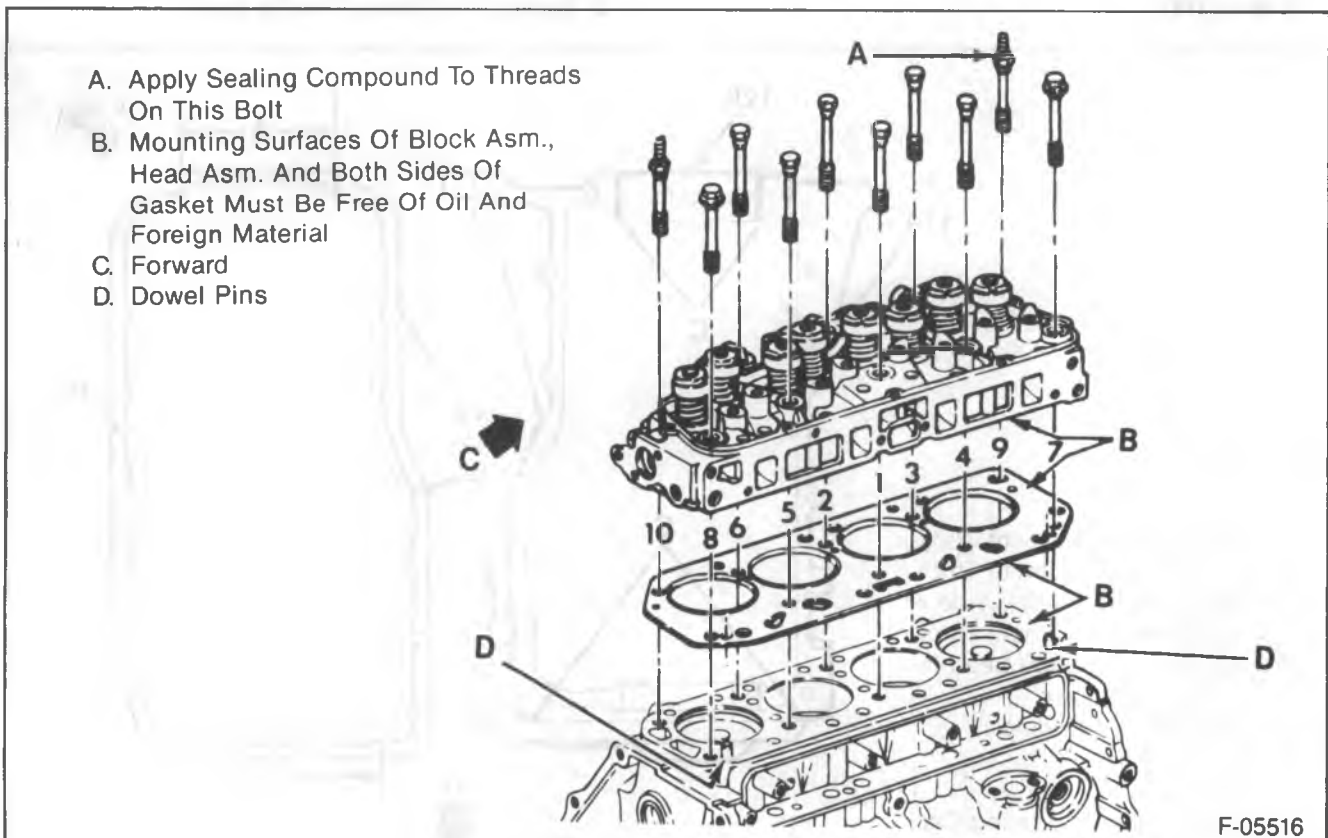

Figure 53—Cylinder Head Installation
3. Cylinder head bolts. Refer to figure 53.
1. All head bolts to 25 N·m (18 ft. lbs.) in the specified sequence (refer to figure 53).